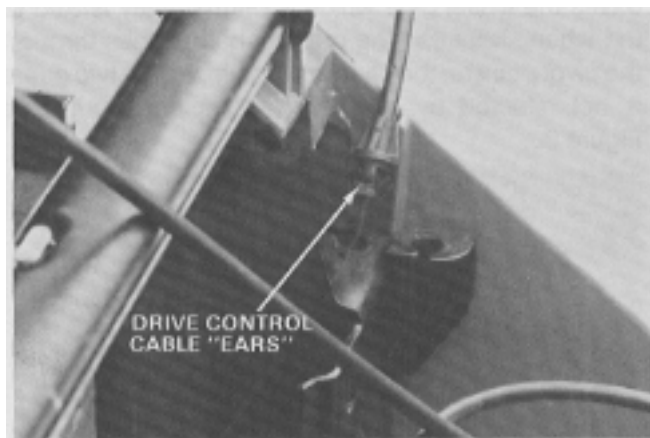

Figure 28
- Squeeze the ears at the end of the cable sheath and pull the cable out vertically. See Figure 28.